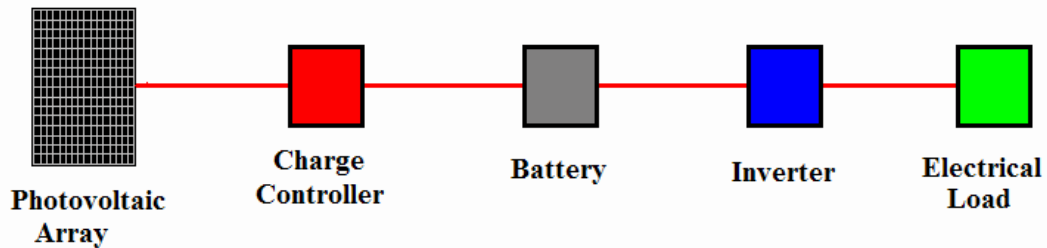

Figure 2
Most electrical loads use alternating current (AC), therefore a photovoltaic system that can supply AC power is more versatile than a DC-only system. A stand-alone AC system is similar to a DC system, except for the addition of an inverter to convert the DC power to AC power. An inverter is a solid state electronic device, but some energy – up to 15% - is lost in the conversion from DC and AC power. In the United States, inverters are designed to convert the DC voltage to either 120 VAC, 60Hz or 240 VAC, 60Hz. Figure 2 shows a typical stand-alone AC system. The load is served from the battery through the inverter and the charge controller regulates the flow of power into the battery.